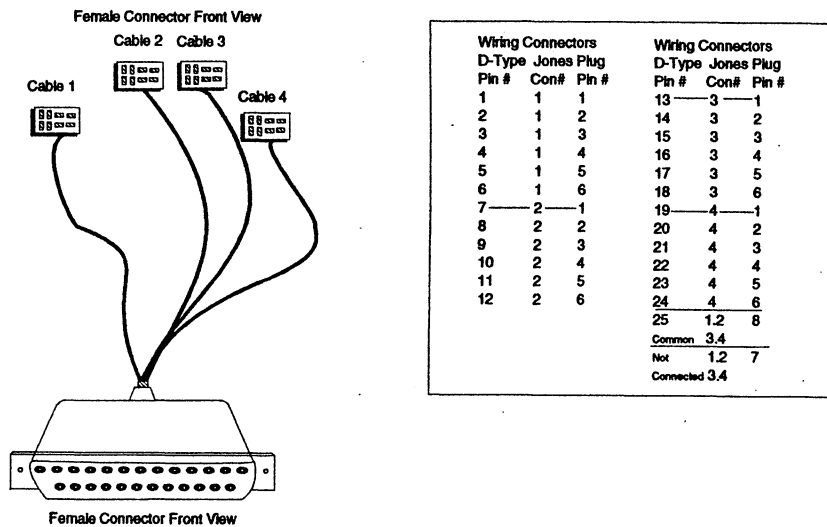

**Figure 2. A typical setup using the LM-850 and digitally-controlled dimmers.**
**Digital Dimmers (DMX-512).** Dimmers which receive a DMX-512 digital control signal (via a 5-pin XLR connector) are daisy-chained much in the same way that MIDI dimmers are. A single DMX-512 output on the LM-850's rear panel is used to drive one dimmer, and that dimmer then feeds the next, and so on (see Figure 2). With this setup, as many dimmers can be hooked up as desired.